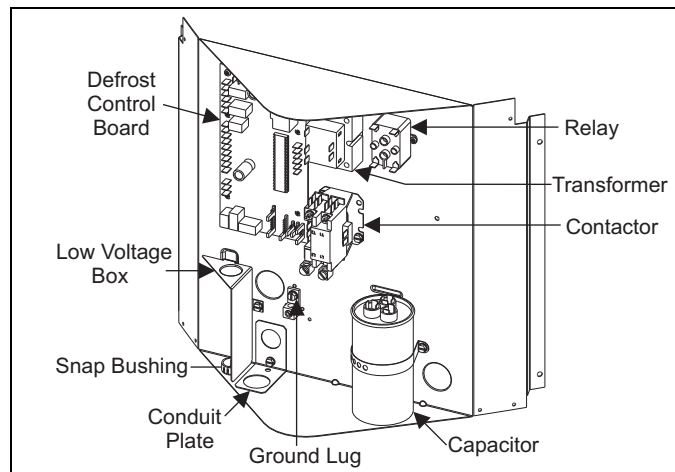
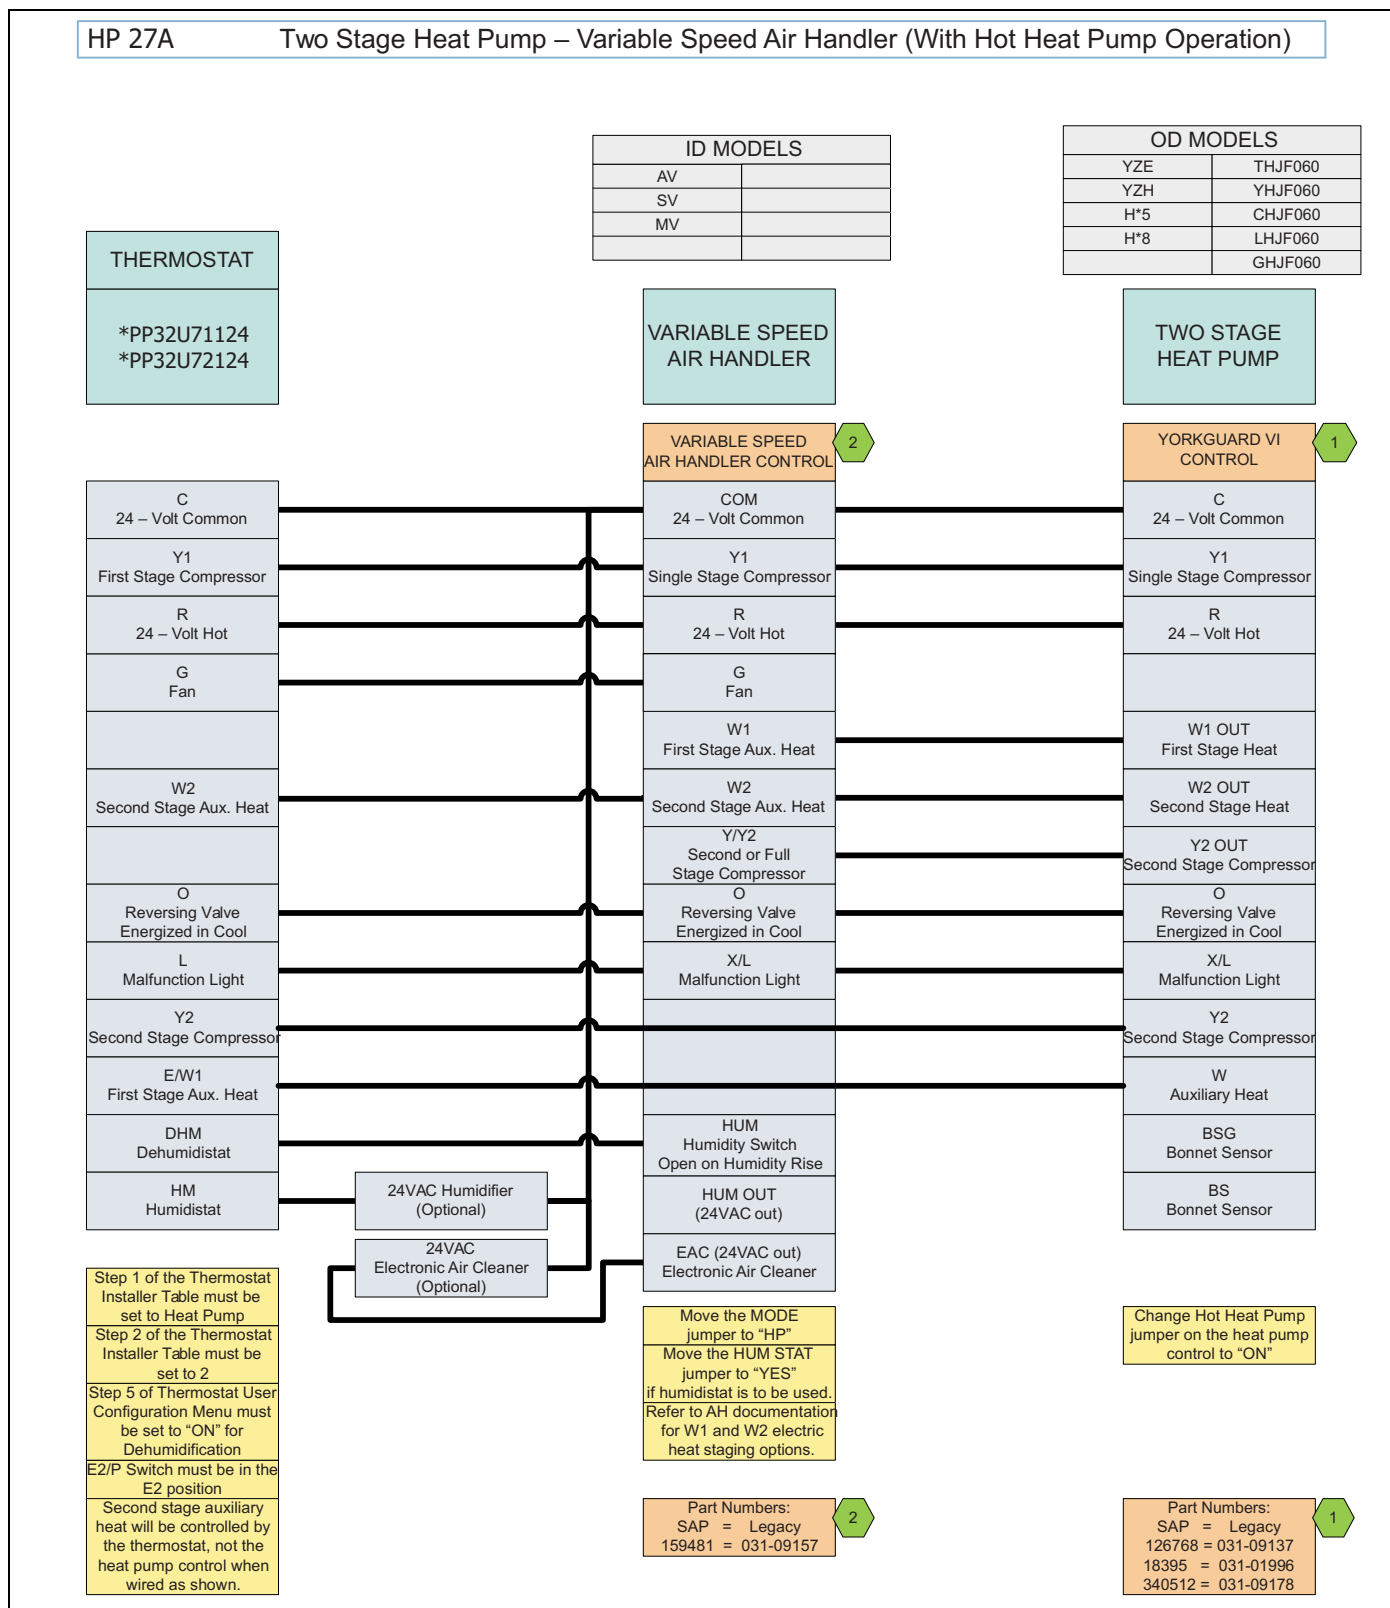

FIGURE 5: Outdoor Unit Control Box - 14.5 SEER 60 Only
FIGURE 6: Thermostat Wiring – Two-Stage Heat Pump - Variable Speed Air Handler
4. Route wires from disconnect through power wiring opening provided and into the unit control box as shown in Figure 5.
1. Route low voltage wiring into bottom of control box as shown in Figure 5. Make low voltage wiring connections inside the low voltage box per Figures 6 & 7.
A dehumidification control accessory 2HU06700124 may be used with variable speed air handlers or furnaces in high humidity areas. This control works with the variable speed indoor unit to provide cooling at a reduced air flow, lowering evaporator temperature and increasing latent capacity. The humidistat in this control opens the humidistat contacts on humidity rise. To install, refer to instructions packaged with the accessory and Figures 6 & 7. Prior to the installation of the dehumidification control, the jumper across the HUMIDISTAT terminals on the indoor variable speed air handler or furnace CFM selection board must be removed.